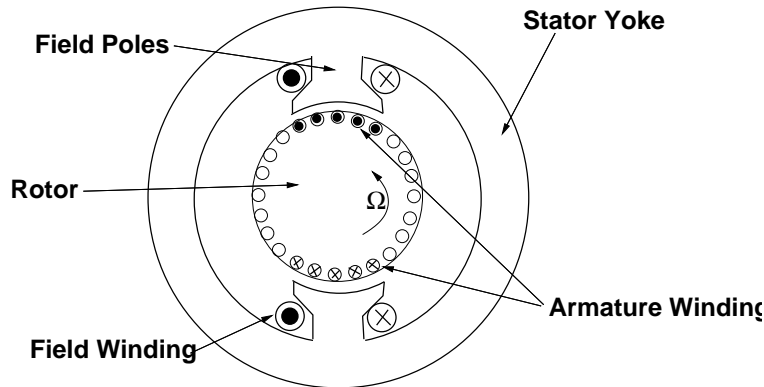

Figure 4.1.1: Cartoon View of a DC motor
A 'cartoon' view of a DC motor is shown in Figure 4.1.1¹. While it is said to be a 'cartoon' view, this is actually not a bad picture of a cross-section of the machine. It consists of a perhaps oddly shaped magnetic circuit on the outside with a 'Yoke' and 'Poles' made of ferromagnetic material with $\mu \gg \mu_0$, and a rotor, also made of ferromagnetic material. There are conductors wound in slots in that rotor. In this problem, we are going to do a very quick analysis of this motor.
- (c) Note the magic in this motor is produced by the commutator, which is continually switching the wires so that the armature current is always in the locations shown in Figure 4.1.1. However, the rotor may be turning so the wires are moving with respect to the poles. Now, consider one turn of wire that comes out of the paper on one side of the motor and goes back in exactly 180° away on the other side. As the rotor turns the flux linked by that turn changes, resulting in a voltage. Estimate that voltage for the time when that turn of wire is 'under' the poles, as a function of rotor radius R , axial length L (the dimension into the paper), magnetic flux density B_r and rotational speed Ω . Remember that the commutator, as it is re-connecting the wires to make current stay under the poles,